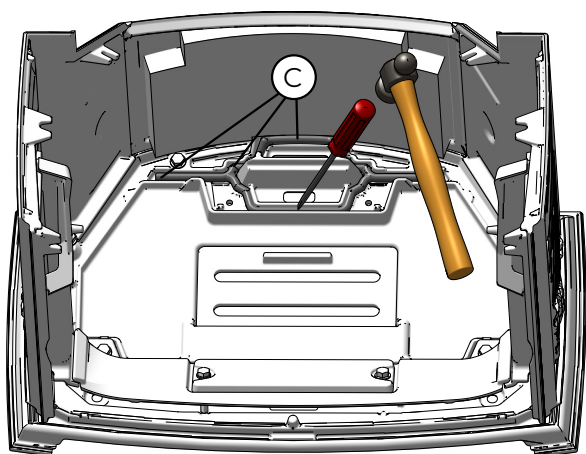

Fig. 7.11
| 6 | Remove the old cement (C) from the groove (Fig. 7.11) |